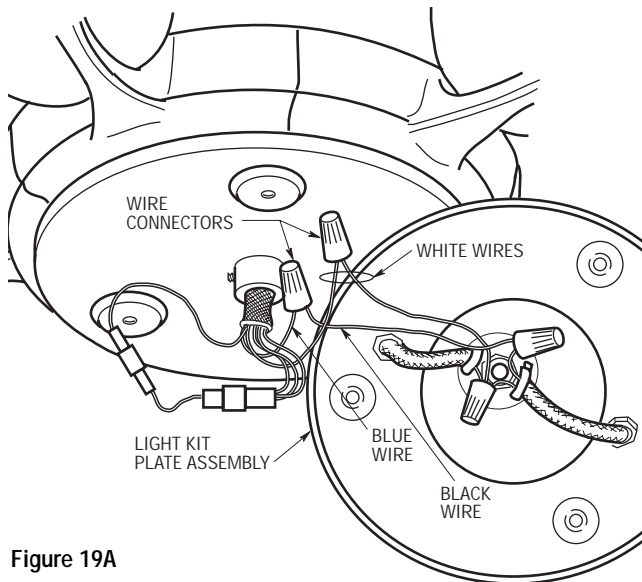

Figure 19A
- 32. Securely connect the black wire from the light kit plate assembly to the blue wire from the motor shaft using a wire connector (supplied) (Figure 19A). Connect the white wire from the plate assembly to the white wire from the motor shaft using a wire connector (supplied).